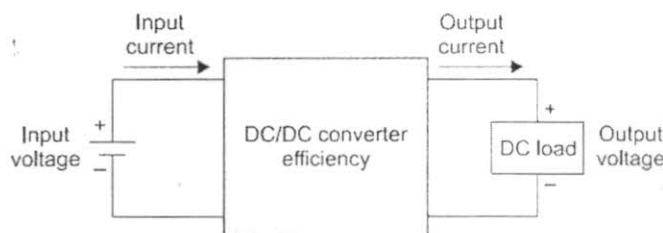

Figure: Q4 (b)
- b) For a DC to DC converter as shown in Figure Q4 (b), a battery of 32 V is connected and the input current is 5 A. At the output side, a voltmeter shows 60 V across the load and the output current is 2.5 A. Determine the following.